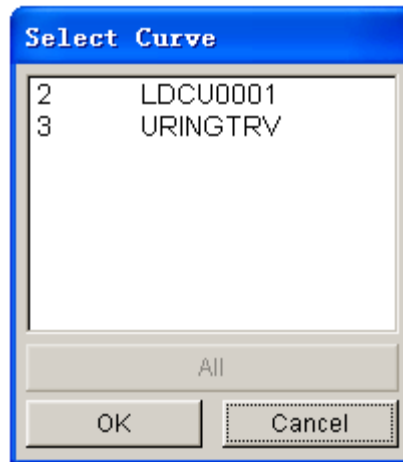

Figure 12.13.10 Select Curve dialog box
- Select a curve from the SELECT CURVE dialog box illustrated in Figure 12.13.10.